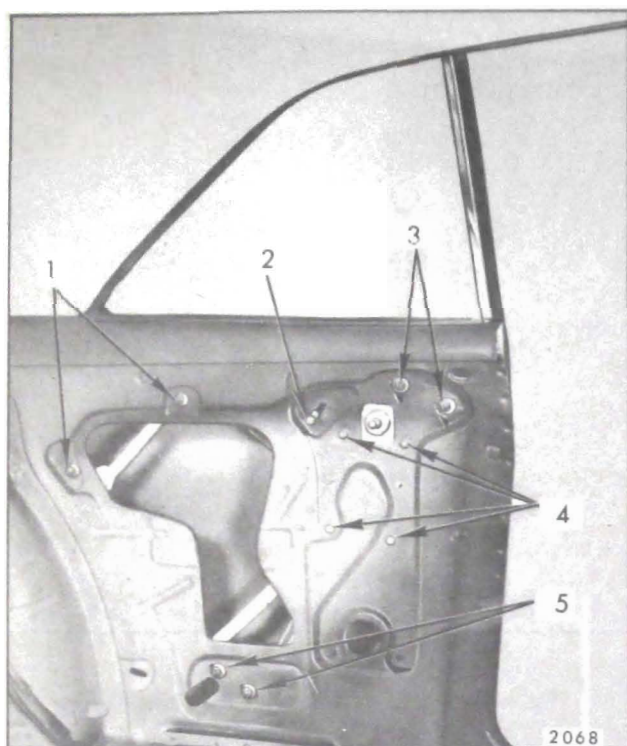

Fig. 7-25—Rear Quarter Hardware - "A-17" Style
5. To limit up-travel of window, adjust window stop as required (see Fig. 7-25 and 7-26).